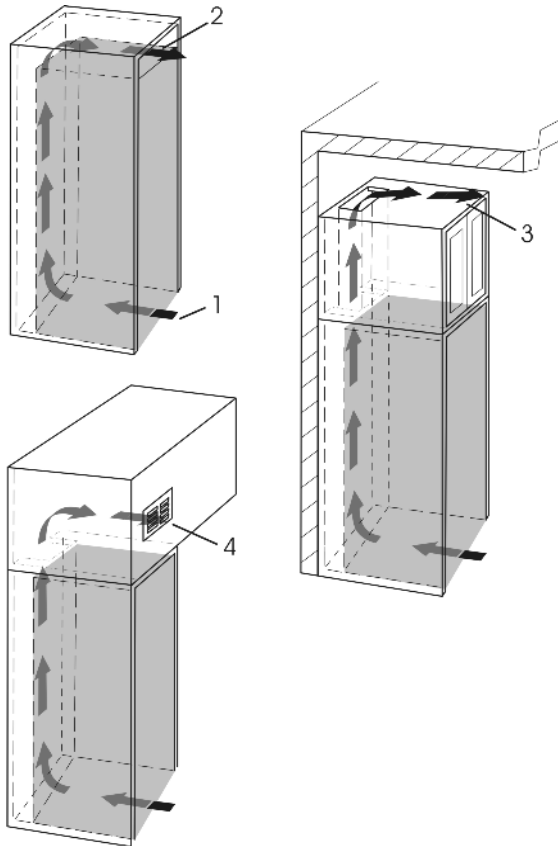

Fig. 8
- An effective ventilation cross-section of at least 31 in2 (200 cm2) per unit must be present at the air intake Fig. 8 (1) and air outlet Fig. 8 (2).
- The upper ventilation cross-section can be set up directly above the appliance with an optional ventilation grille Fig. 8 (2), near the ceiling above a cabinet Fig. 8 (3) or as an air vent in an intermediate ceiling Fig. 8 (4).